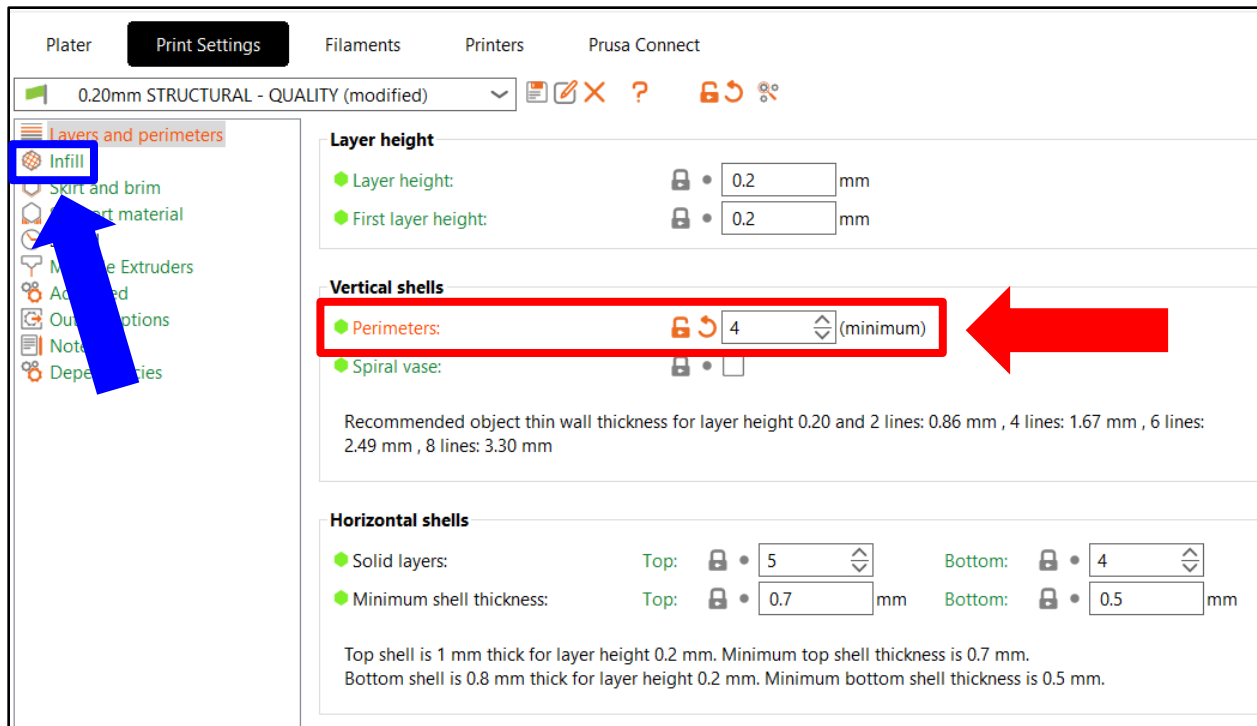

Figure 3. Adjusted Perimeter Settings.
5.) Change the fill density to % and the fill pattern to Gyroid (see red box in Figure 3).